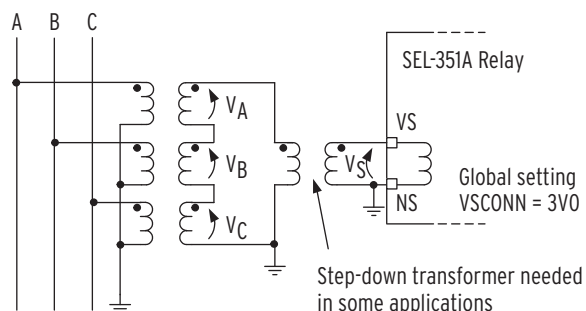

Figure 6 Broken-Delta Connection to SEL-351A Voltage Input VS/NS
Alternatively, voltage input VS/NS can be connected to a broken-delta voltage source, as shown in *Figure 6*. This broken-delta connection provides a zero-sequence voltage source (3V0)—useful when zero-sequence voltage is not available via the three-phase voltage inputs VA, VB, VC, and N, (e.g., when open-delta-connected voltage is applied to the three-phase voltage inputs—see *Figure 5*). Zero-sequence voltage is used in zero-sequence voltage-polarized ground directional elements and in the directional protection for Petersen Coil grounded systems.
- Broken-delta zero-sequence voltage (see *Figure 6*)